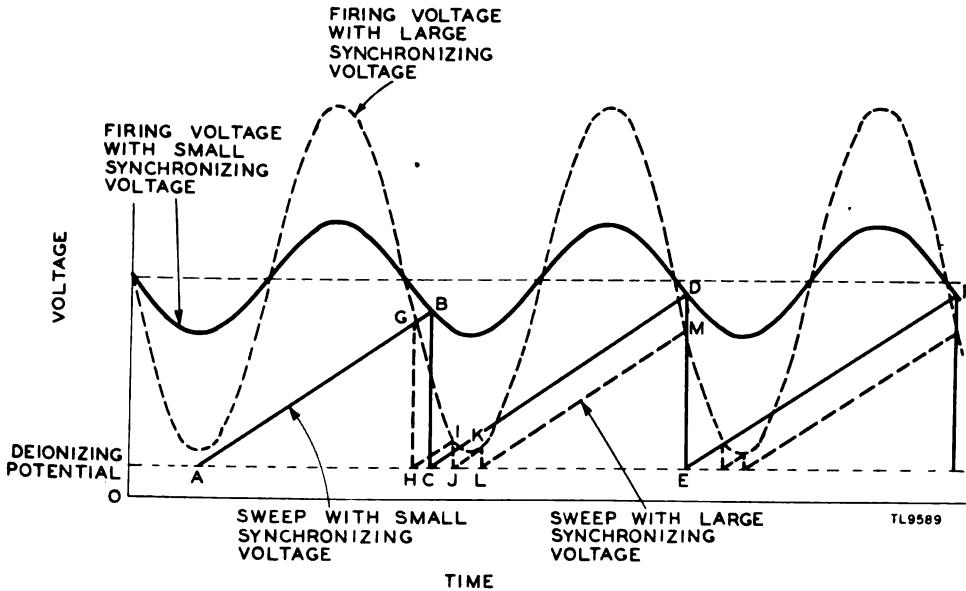

Figure 17. Distortion of sweep resulting from too much synchronization.
(4) The synchronizing signal amplitude must be kept as low as possible during operation, because too much signal causes distortion. The reason for this is explained by figure 17. With a small value of synchronizing voltage the firing voltage is represented by the solid line *BDF*. The rise of the saw-tooth reaches the firing potential once for each synchronizing cycle, at *B*, *D*, and *F*, and the sweep is synchronized with the signal. If the synchronizing signal is increased so that the curve of the firing voltage is along the dotted curve *GIKM*, the rise of the saw-tooth reaches the firing potential three times for each cycle in the signal, at *G*, *I*, *K*, *M*, etc., and starts a new cycle each time. This causes distortion of the sweep and of the pattern on the screen.